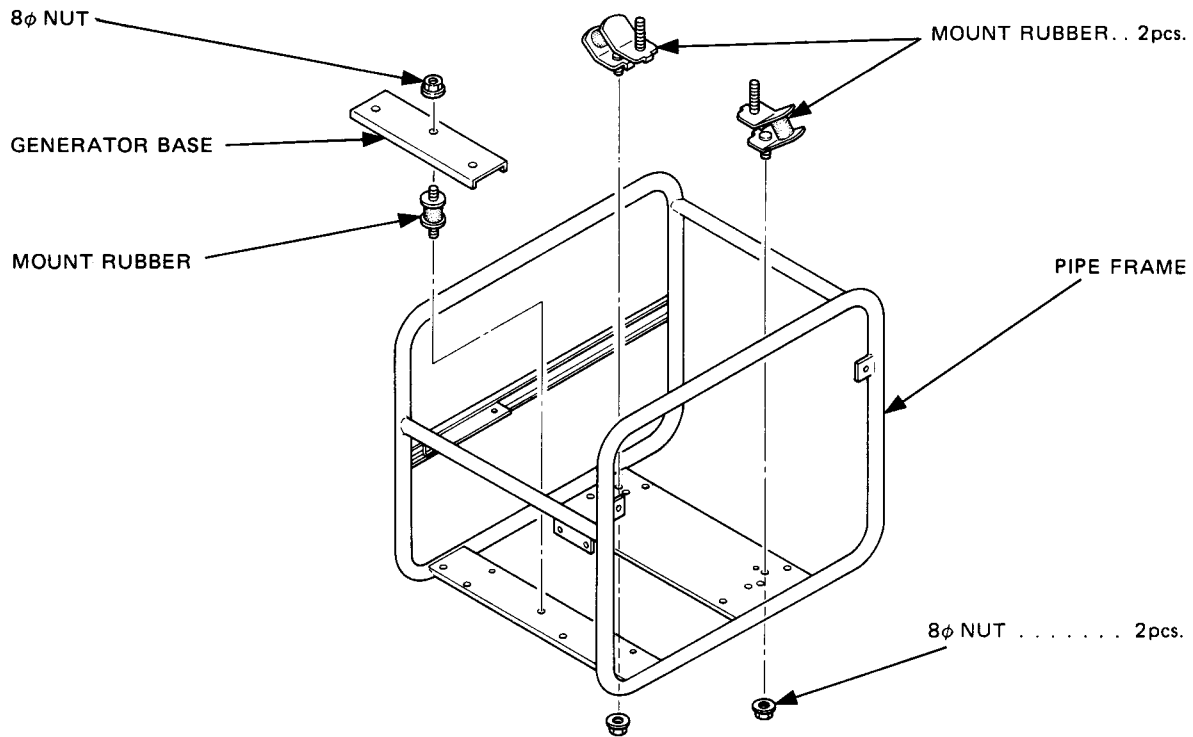

Fig. 10-34
(1) Attach two mount rubbers to the engine base of the frame. Tighten the nuts from the bottom side of the frame. (See Fig. 10-34.)
(3) Attach the alternator mount rubber to the frame. (See Fig. 10-34.)